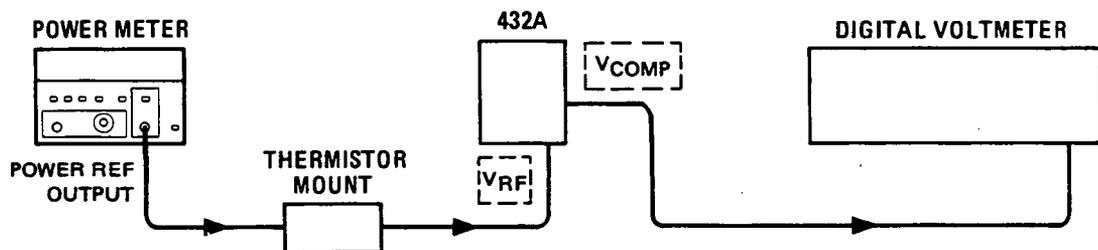

Figure 5-7. Power Reference Oscillator Level Adjustment Setup
3. Connect the 432A to the Power Meter as shown in Figure 5-7.